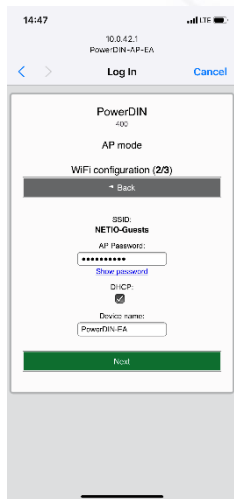

Figure 4
- 5) Enter the password for the selected WiFi network. You may also change the device name. If your network does not use the DHCP, unselect this option and manually enter the IP address and other network parameters (for experts only). Confirm by pressing "Next". (Figure 4)